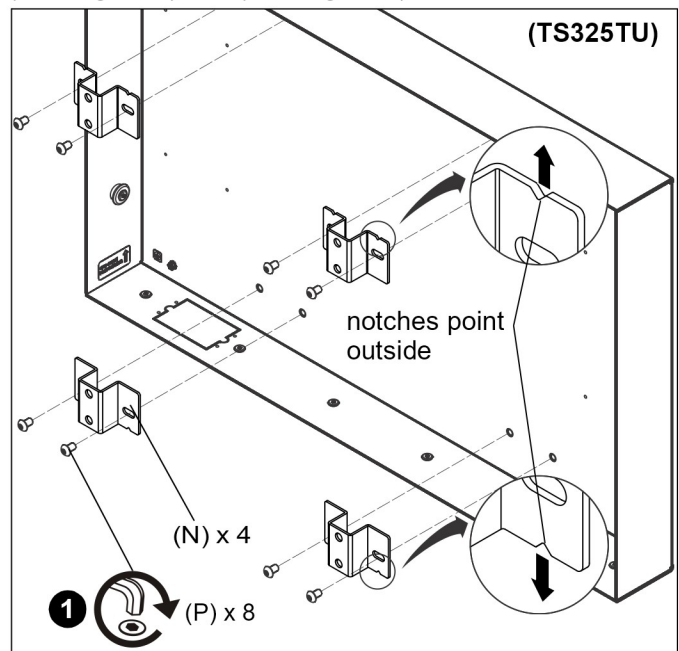
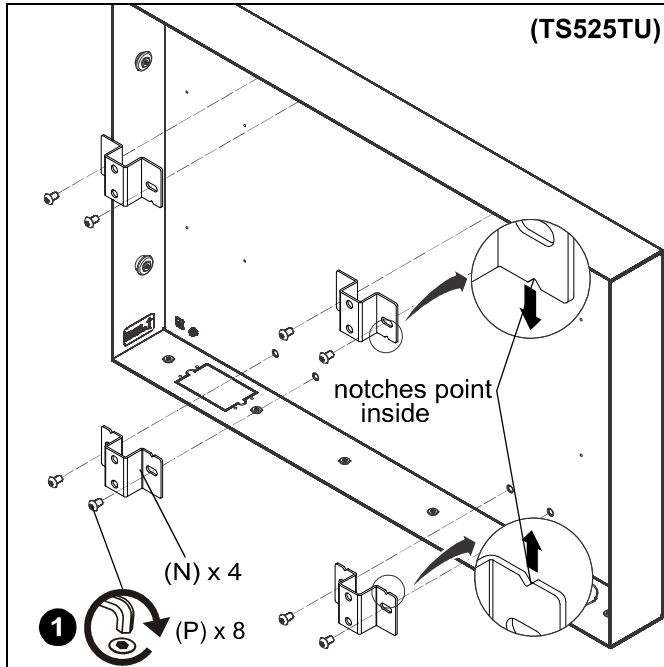

Figure 7
Figure 8
1. Use eight 5/16-18 x 1/2" button head cap screws (P) to attach four attachment brackets (N) to the TA500 (A). (See Figure 7) and (See Figure 8)
**IMPORTANT !:** Bracket orientation is different depending on mount being installed. Notches point to the outside for TS325TU and to the inside for TS525TU. (See Figure 7) and (See Figure 8)